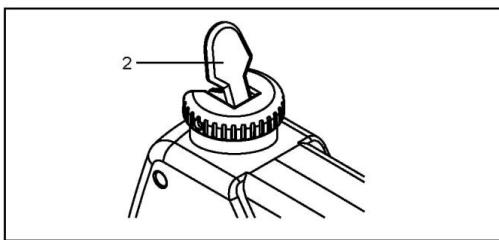

Fig. 12
1. To remove the blade, loosen the blade tension by lifting the quick tension release lever (2). (Fig.12)
1. To remove the blade, loosen the tension by lifting up thequick tension release lever (2). (Fig.12)